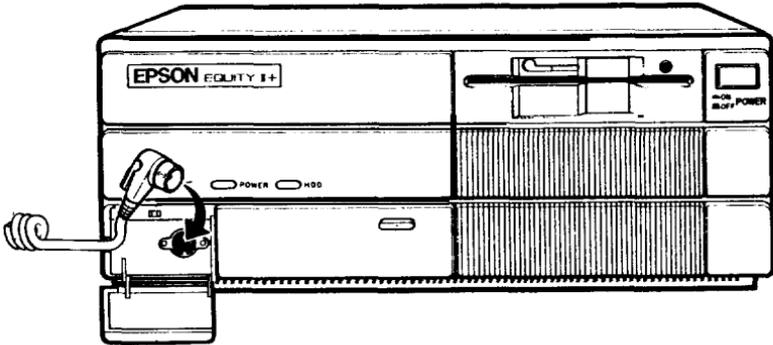

Figure 1-6. Plugging the keyboard cable into the *main* unit
2. Plug the other end of the cable into the keyboard socket, as shown in Figure 1-6. Do not force the connector, but be sure to insert it all the way